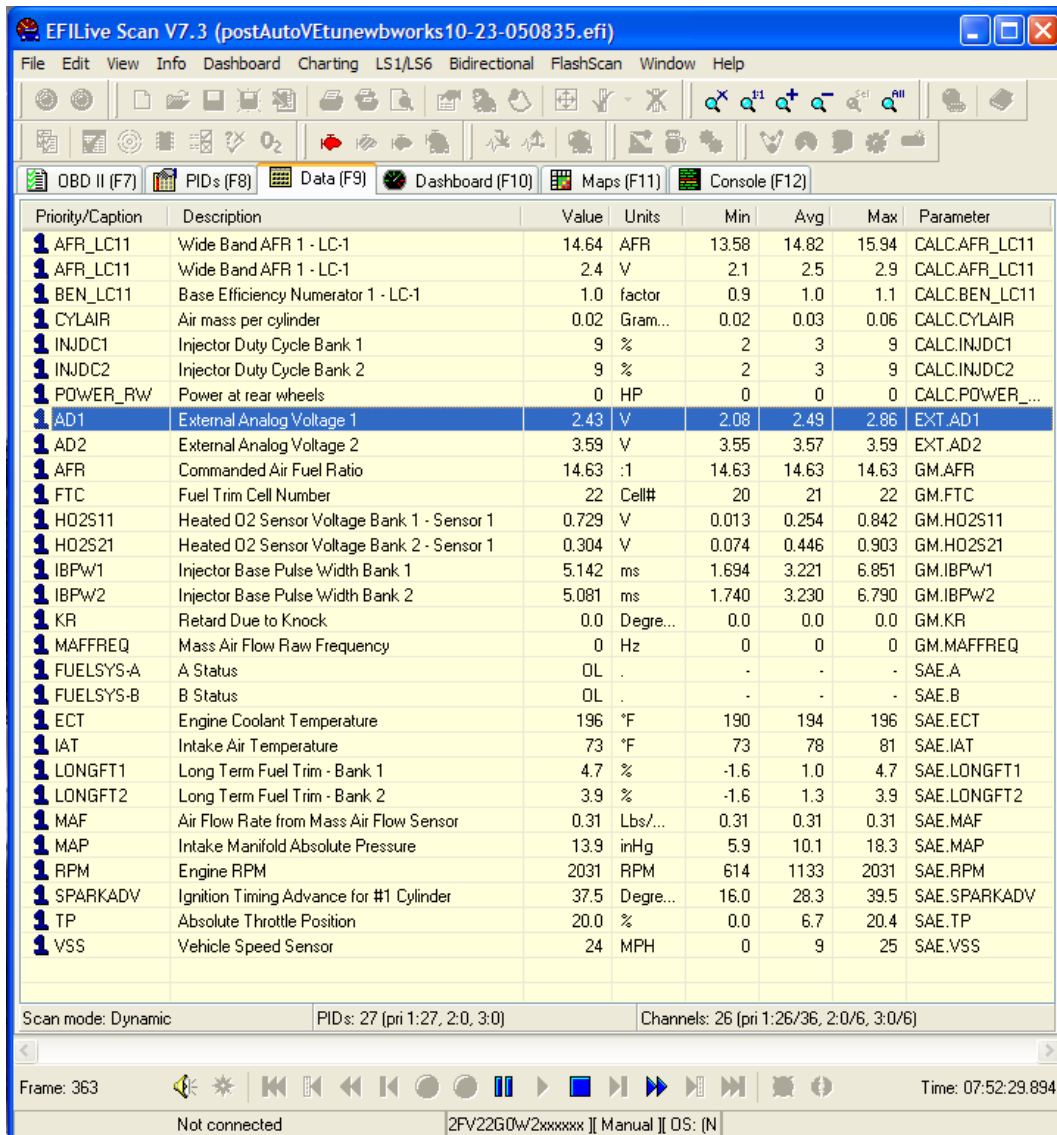

Figure 4: Sample Data Log
4. Click the “Data” tab and see which {EXT.ADx} is connected. See Figure 4 for example.